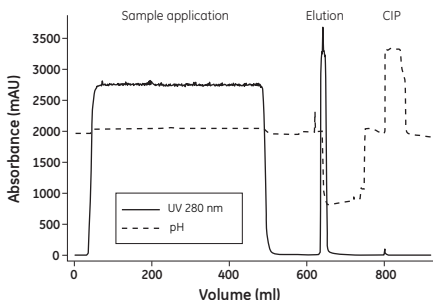

Fig 5. Purification of a monoclonal antibody from a mammalian cell culture on MabSelect SuRe.
When optimizing elution conditions, determine the highest pH that allows efficient desorption of antibody from the column. This will prevent denaturing sensitive antibodies due to exposure to low pH. Step-wise elution (Figure 5) is often preferred in large-scale applications since it allows the target monoclonal antibody to be eluted in a more concentrated form, thus decreasing buffer consumption and shortening cycle times. It might be necessary to decrease the flow rate due to the high concentrations of protein in the eluate.
Figure 5 shows an example of purification of a monoclonal antibody from a clarified mammalian cell culture on MabSelect SuRe. The load was 21 mg antibody/ml column volume (CV), and the yield was 94% of highly purified antibody. An XK 16/20 column with a CV of 20 ml and a bed height of 10 cm was used.
The ligand leakage from MabSelect SuRe is generally low. For example, the eluate from the purification run shown in Figure 5 contained 3 ppm (ng ligand/mg antibody) of leached ligand. However, in many monoclonal antibody applications it is a requirement to eliminate leached ligand from the final product.